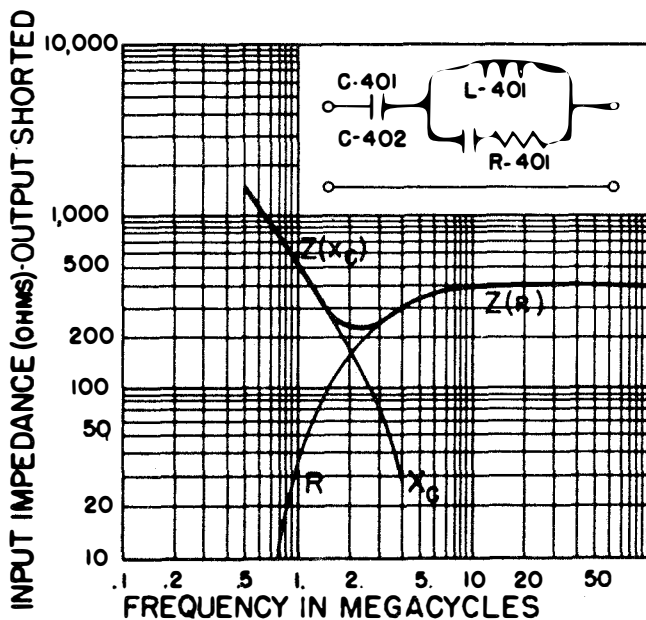

Figure 4-3. Schematic Diagram of the Antenna Simulator SM-35/URM-25 with Input Impedance-Frequency Curve
(See figure 4-3.)
c. It can be seen from figure 4-3 that the minimum impedance of the antenna simulator will be approximately 220 ohms at 2 megacycles. This impedance becomes extremely high at lower frequencies and approaches 400 ohms at higher frequencies. In using the meter (M-101) of the signal generator it should be realized that a 20 percent maximum error may be introduced at 2 megacycles. If greater meter accuracy is required when using the antenna simulator, the actual impedance of this unit should be calculated from figure 4-3 at the frequency selected.
Figure 4-3 in this section is the same as figure 2-15 in section 2 but has been repeated here to assist the operator in applying the procedures herein outlined for the operation of the antenna simulator.